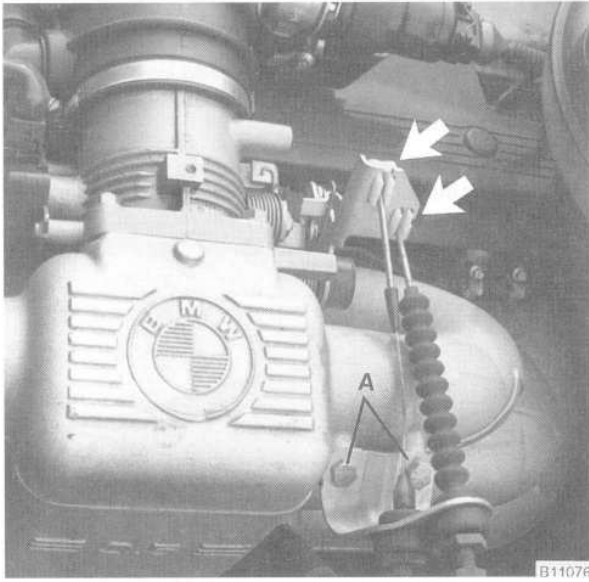

Fig. 36. Disconnect cables at throttle lever (arrows) and remove cable bracket bolts (A).
11. Disconnect the cables from the throttle lever. Remove the cable bracket from the intake manifold and move the cables out of the way. See Fig. 36.